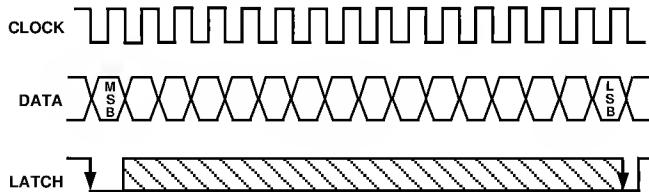
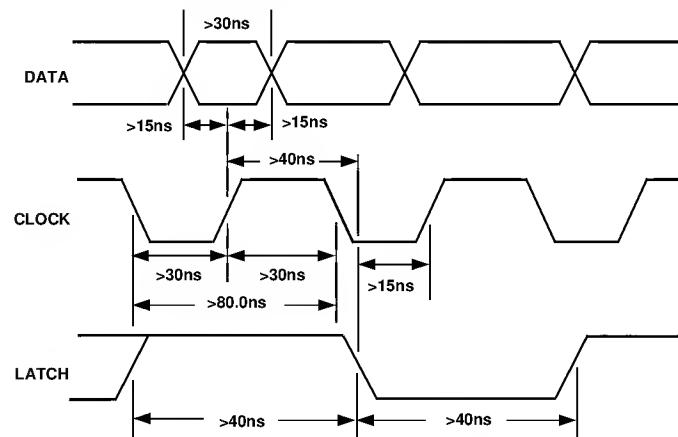

Figure 5. Signal Requirements for AD1851
Figure 6. Timing Relationships of AD1851 Input Signals
Data is transmitted to the AD1851 in a bit stream composed of 16-bit words with a serial, M SB first format. Three signals must be present to achieve proper operation. They are the Data, Clock and Latch Enable (LE) signals. Input data bits are clocked into the input register on the rising edge of the Clock signal. The LSB is clocked in on the 16th clock pulse. When all data bits are loaded, a low-going Latch Enable pulse updates the DAC input. Figure 5 illustrates the general signal requirements for data transfer to the AD1851.
Figure 6 illustrates the specific timing requirements that must be met in order for the data transfer to be accomplished properly. The input pins of the AD1851 are both TTL and 5 V CMOS compatible. The input requirements illustrated in Figures 5 and 6 are compatible with data outputs provided by popular DSP filter chips used in digital audio playback systems. The AD1851 input clock can run at a 12.5 MHz rate. This clock rate will allow data transfer rates for 2 \times , 4 \times or 8 \times or 16 \times oversampling reconstructions.